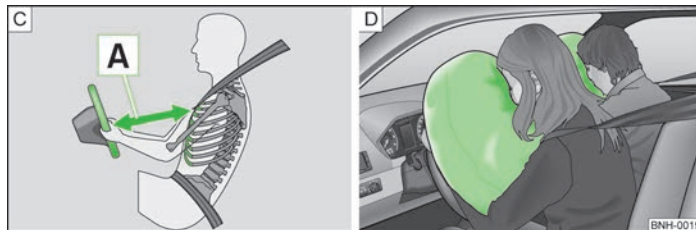

Fig. 142 Safe distance to steering wheel/inflated airbags.
If the airbags are deployed, the airbags are filled with a propellant gas and inflated in front of the driver and front passenger » Fig. 142 - [D]. The forward movement of the driver and of the front passenger is cushioned when they make contact with the fully inflated airbag and the risk of injury to head and chest is thus reduced. ▶
- For the driver and front passenger, it is important to maintain a distance of at least 25 cm to the steering wheel or dashboard **[A]** » Fig. 142. Not maintaining this minimum distance will mean that the airbag system will not be able to properly protect you - hazard! The front seats and the head restraints must always also be correctly adjusted to match the body size of the occupant.